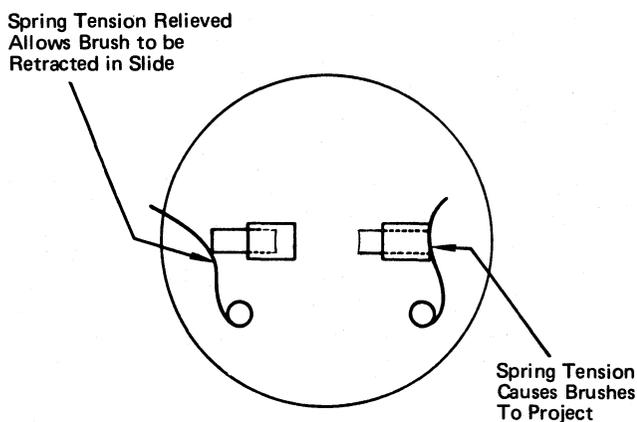

Figure 1-23. Brush Tension
- b. Be sure the brushes are removed from their slides or that the spring tension is relieved by placing a spring hook or rubber band beneath the brush tension spring. See that the brushes are pushed back in their slides, otherwise the commutator can jam against the brushes and damage them (Figure 1-23).